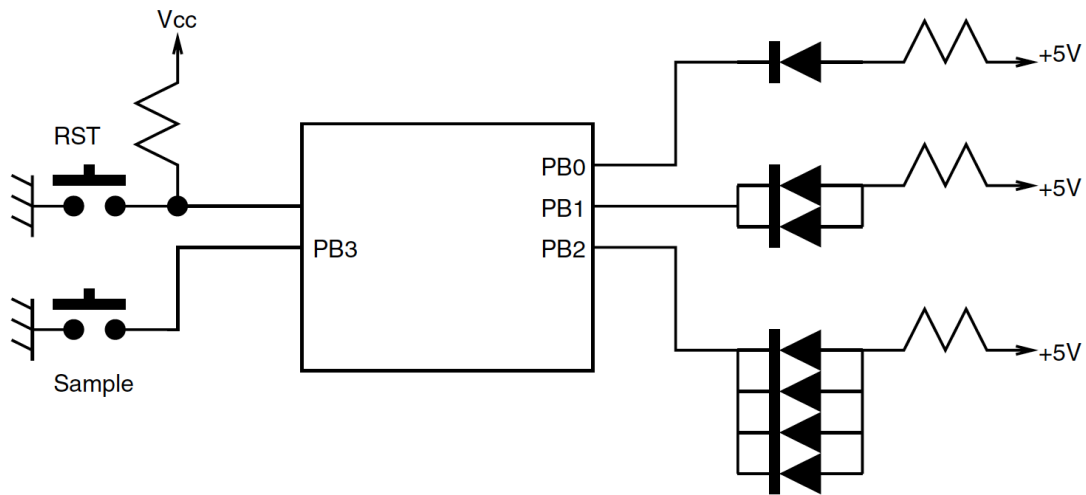

FIGURE 4. Block diagram for the electronic dice using an ATtiny2313 MCU
- The final circuit of the device is shown in Figure 4. Calculate the values of resistors that are required and draw, test and virtually prototype the device in Proteus.